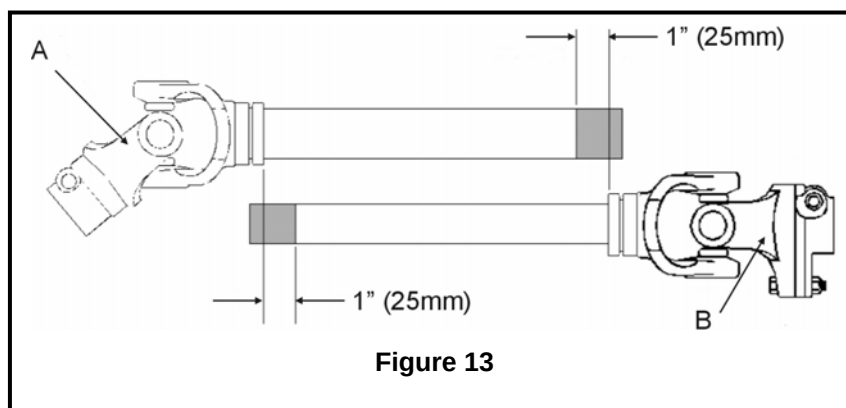

Figure 13
3. Referring to figure 13, attach the bare PTO shaft to tractor (Yoke, A) and machine (Yoke, B). With the tractor in the fully turned position, the PTO shaft will be at its shortest compressed length. Check that there is a minimum clearance of 25mm (1") as shown in the diagram. This should ensure that there is no risk of bottoming when in work.
5. If it proves impossible to attach the PTO shaft with the clearance as shown in figure 13, the shaft must be shortened. Separate the two halves and proceed as follows:-Attach bare half shaft (A) to tractor and bare half shaft (B) to machine, with the sliding tubes side by side and parallel (figure 13). Mark the tubes so that when cut, assembled and refitted to tractor/machine, they correspond to figure 13.
6. Clean off burrs and swarf. Fit assembled bare PTO shaft to tractor/machine and ensure that the clearance as shown in figure 13 is maintained. Proceed as in 4.